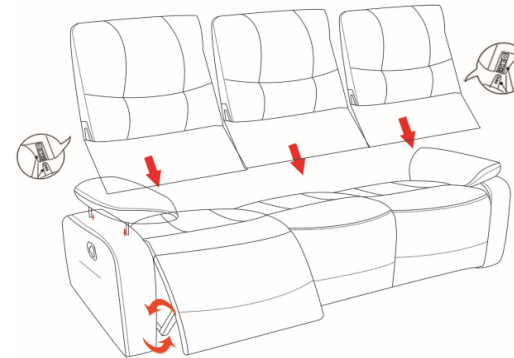

fig.2
1. Carefully align connecting hooks & holes into position and lock them to secure the mechanism. See fig. 2
3. Engage the Metal Locks and push fit. You should hear them lock into position. See fig. 2
4. Paste the velcro on the flag of the Back Cushions onto the back of Seat Cushions. See fig. 2
5. Insert the armrest pieces into the armrest, See fig. 2